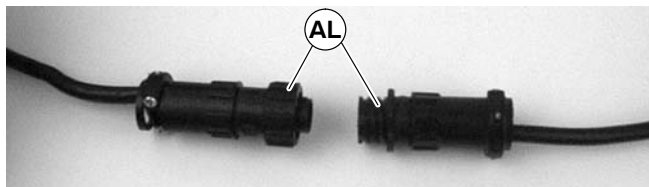

Figure 28
3. For DC variable speed motor, unplug motor cord at disconnect (AL of Figure 28).